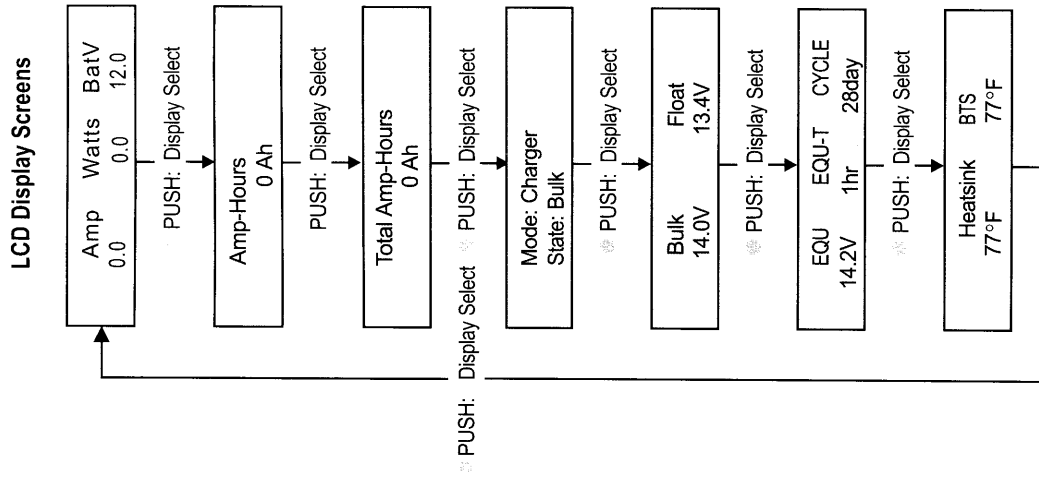

Fig. 3. LCD Display Flow
- Display Push to change the display as in Fig. 3.